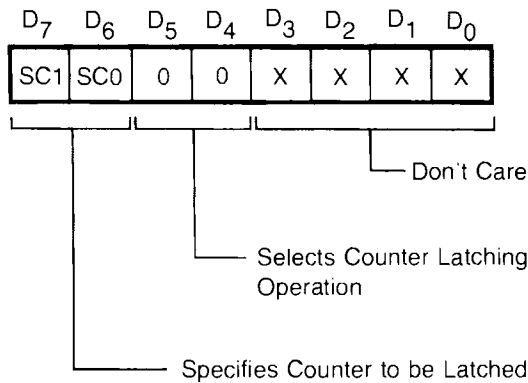

Figure 3-3. PIT Counter Register Latch Control Word Format
- a. Write counter register latch control word (Figure 3-3) to port 00D6. The control word specifies the desired counter and selects the counter latching operation.